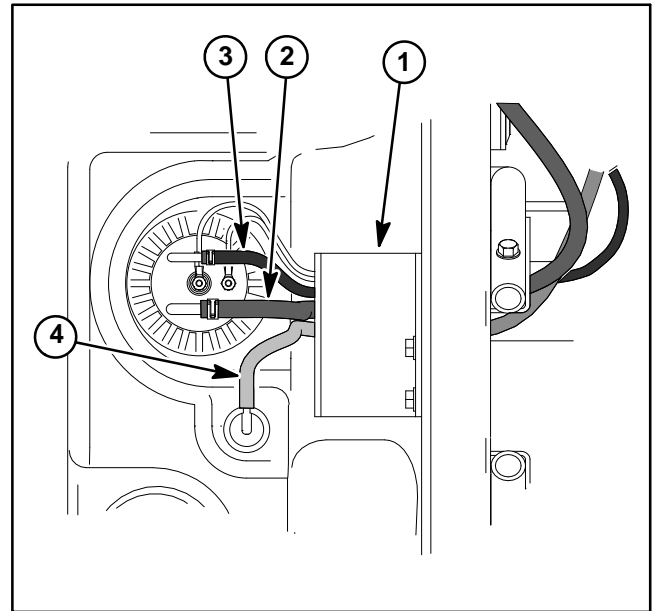

Figure 8
4. Note routing of fuel hoses for installation purposes (Fig. 8). Disconnect fuel hoses from fuel sender and rollover valve. Plug fuel hoses to prevent leakage or fuel contamination.